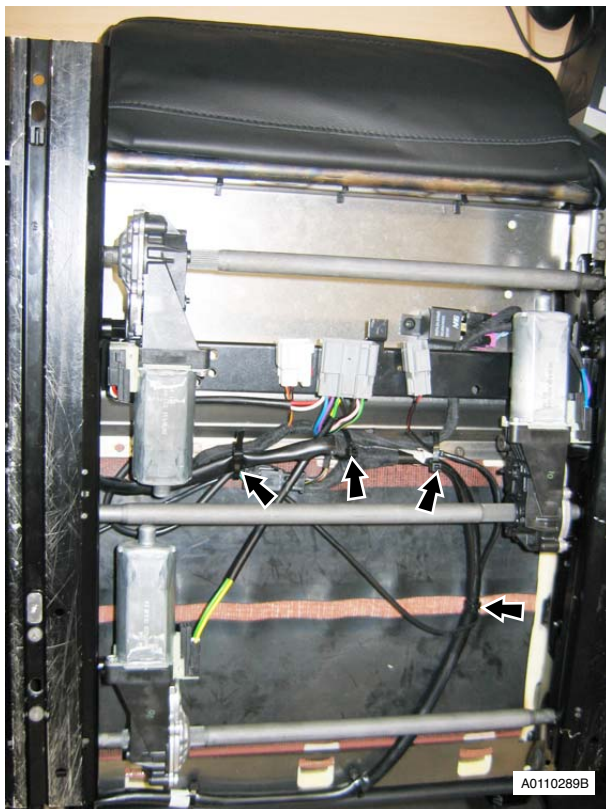

Figure 1
10. Release cable ties (x4) securing seat belt buckle harness to 6 way seat adjuster frame assembly (see Figure 1).